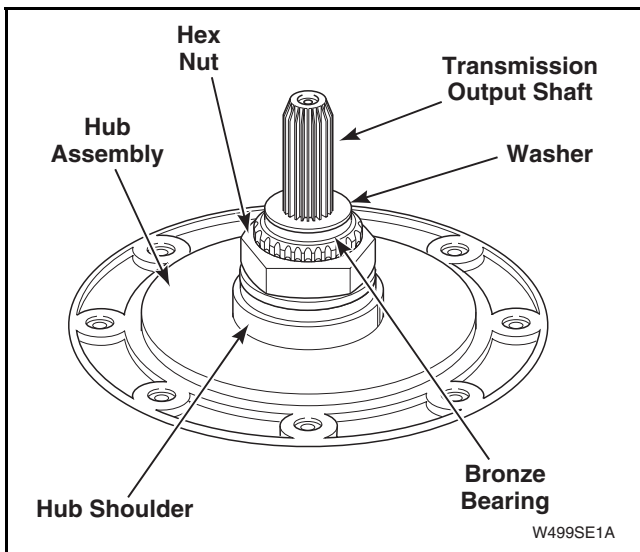

Figure 24
- Thoroughly clean all foreign material from seal mounting area of hub assembly, bronze bearing and washer. Refer to *Figure 24*.